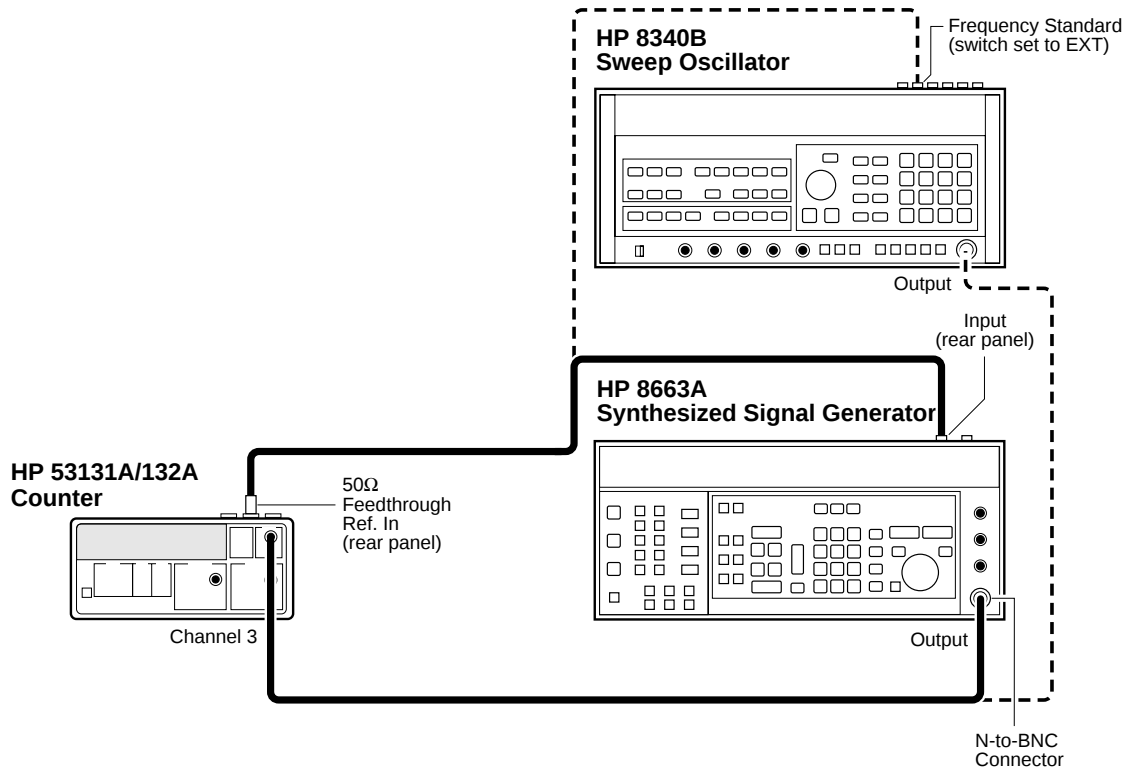

Figure 1-9. Option 030/050/124 Channel 3 Frequency Sensitivity and Accuracy Test Setup
- 1 **Set the HP 8663B Synthesized Signal Generator to output a 2500 MHz, -40 dBm sine wave, and connect the signal to Channel 3 of the Counter as shown in Figure 1-9.**
- 1 Disconnect the HP 8663A Synthesized Signal Generator from the Counter (see Figure 1-9), and connect the HP 8340B Sweep Oscillator to Channel 3 of the Counter.**
- 1 Connect equipment as shown in Figure 1-9.
of the Counter as shown in Figure 1-9.**